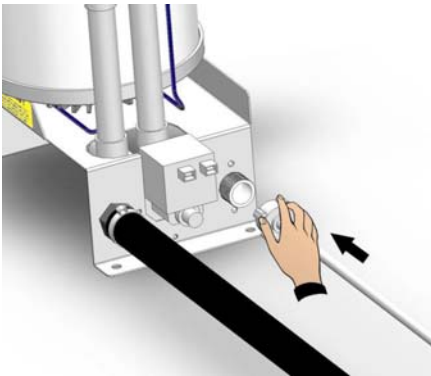

Fig. 21
4. Connect the water charge line to GAS 3/4 coupling of the electrovalve (fig. 21 and 22).